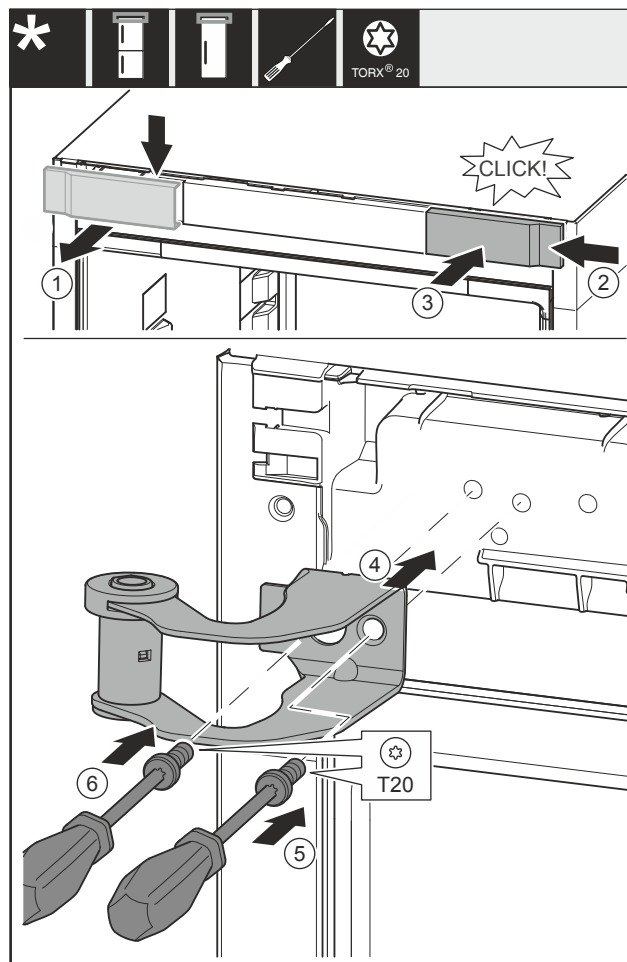

Fig. 14
- ▶ Remove the cover Fig. 14 (1) from above towards the front.
- ▶ Turn the cover Fig. 14 (2) by 180° and attach to the other side from the right.
- ▶ Engage the cover Fig. 14 (3).
- ▶ Place the top swap bearing block Fig. 14 (4).
- ▶ Screw the screw Fig. 14 (5) tight.
- ▶ Screw the screw Fig. 14 (6) tight.